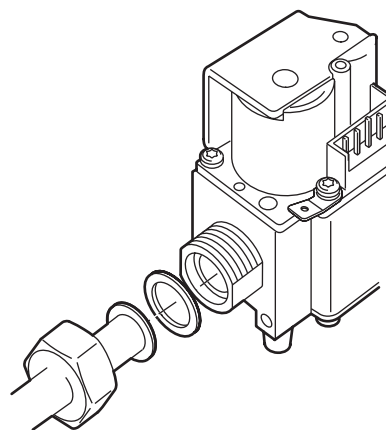

Fig. 2. External thread connection with nut and flat sealing ring
① With $\frac{1}{2}$ " nut and flat sealing ring for pipe 14 mm (see fig. 2.)
② With $\frac{1}{2}$ " nut and flat sealing ring for pipe 15 mm (see fig. 2.)
⑤ With $\frac{3}{4}$ " nut and flat sealing ring for pipe 15 mm (see fig. 2.)
⑥ With $\frac{3}{4}$ " nut and flat sealing ring for pipe 18 mm (see fig. 2.)